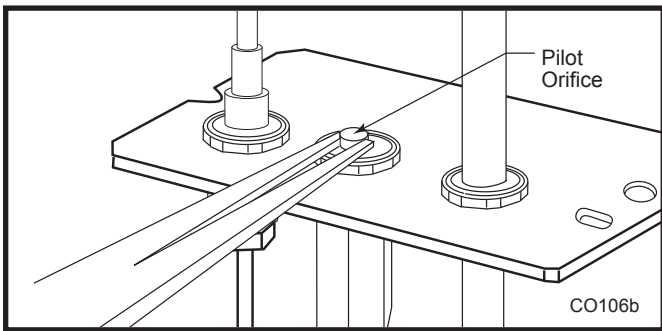

Fig. 64 Remove pilot orifice.
- Remove pilot orifice with needlenose pliers. (Fig. 64)